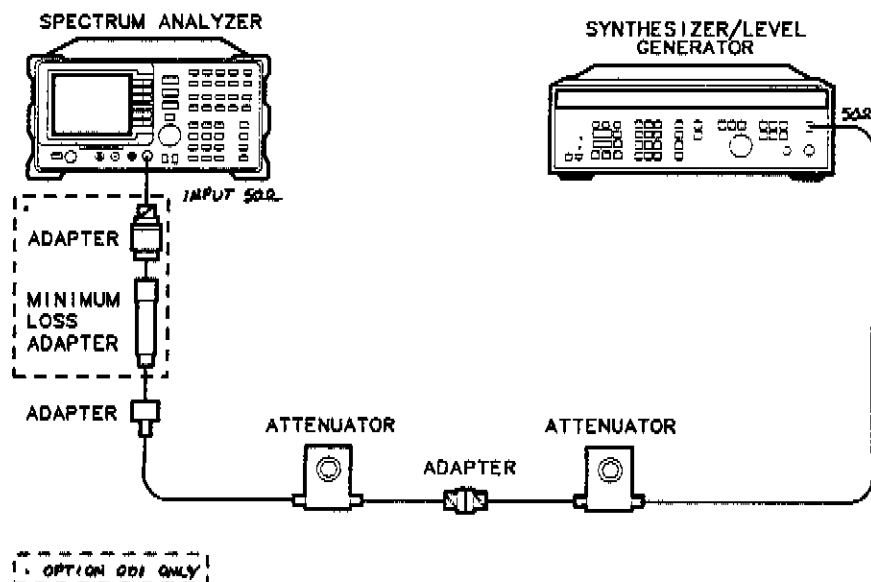

Figure 1-9. Reference Level Accuracy Test Setup
2. Connect the equipment as shown in Figure 1-9. Set the 10 dB step attenuator to 10 dB attenuation and the 1 dB step attenuator to 0 dB attenuation.